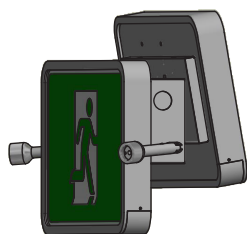

Figure 7
3. Mount unit securely to ceiling with appropriate pendant kit, passing required wires through (figure 7).